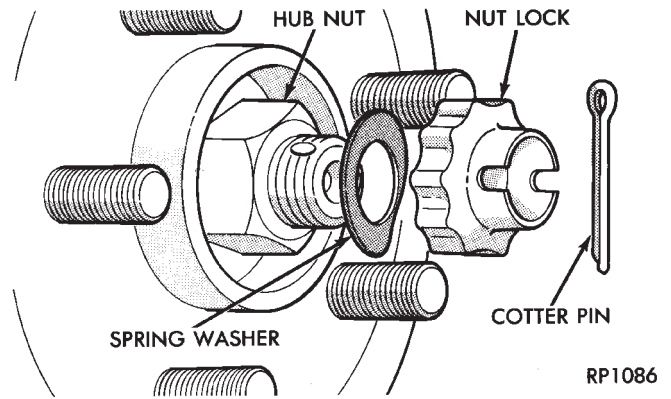
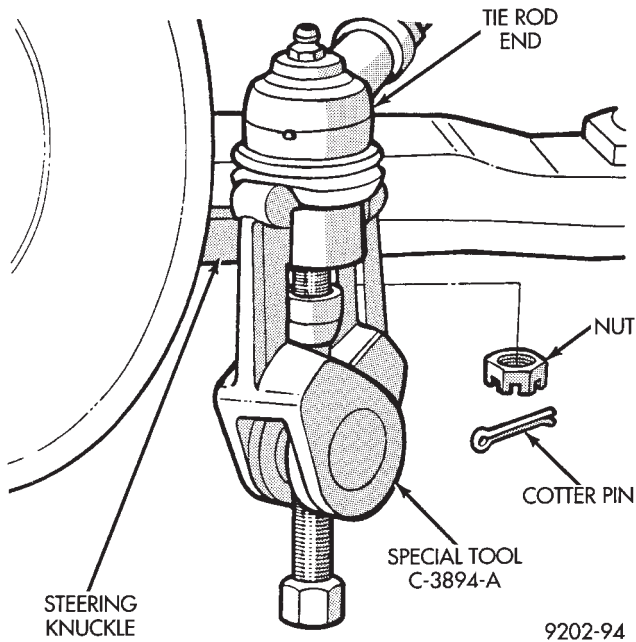

Fig. 3 Remove Cotter Pin, Nut Lock, & Spring Washer
Fig. 5 Disconnect Tie Rod End
(1) Remove cotter pin, hub nut lock, and spring washer (Fig. 3).
(4) Remove the hub nut and the washer from the stub axle (Fig. 3).
(5) Remove the wheel lug nuts, and tire and wheel assembly from the vehicle.
(6) Disconnect tie rod end from steering arm with Puller Special, Tool C-3894-A (Fig. 5).